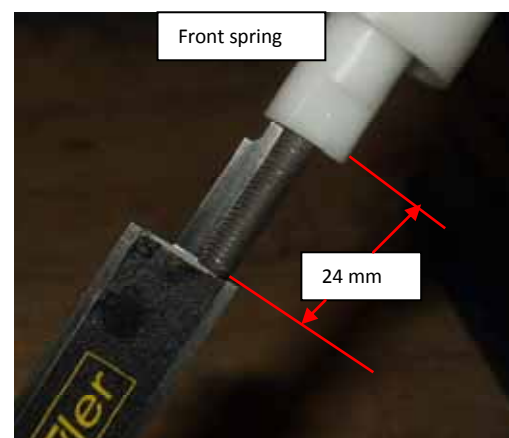

Figure 77 - Front Lower Spring Cable Adjustment
2. Using digital calipers to measure, adjust the front lower spring cable adjuster clock-wise (up) so that cable stud is now protruding **24 mm** instead of flush. (Figure 77).